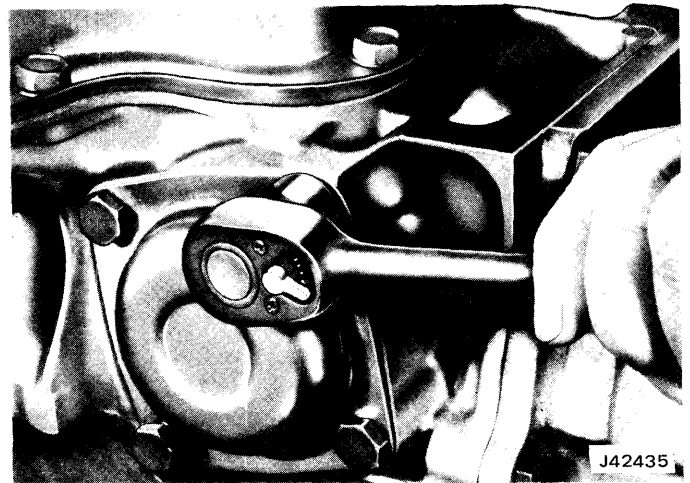
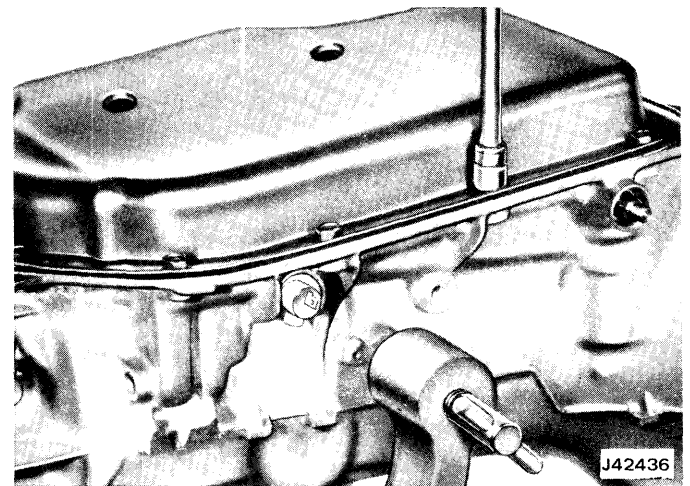

Fig. 7-6 Removing—Installing Governor Cover
Fig. 7-7 Removing—Installing Oil Pan
(1) Remove governor cover attaching screws and remove cover and gasket (fig. 7-6). Discard gasket.
(2) Remove governor assembly.
(3) Remove oil pan and gasket (fig. 7-7). Discard gasket.